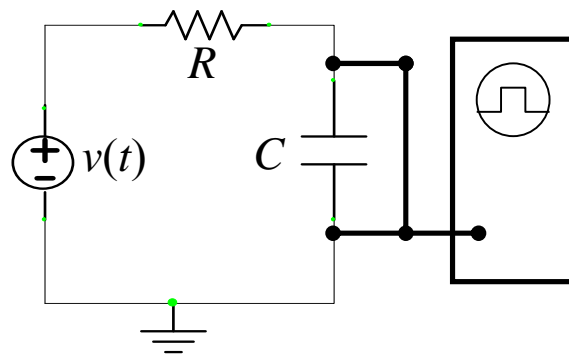

Figure 3. Circuit A measurement for step response model.
1. To use the **step response model** in the capacitor measurement, build the Circuit A shown in **Fig. 3**. How to choose the resistor and capacitor values? Considering the coaxial cable resistance of 50Ω , you may choose a large resistance of $>1k\Omega$. If the resistance and capacitance values are too large, the time constant RC is much larger than the period of the square wave, you cannot observe the charging effect. First you calculate the time constant of RC and then make the period of your square wave several times larger than the RC time constant. Use a 0 to 5V square wave input (function generator and voltage offset setting so that the wave starts at 0 volts) and use the oscilloscope to measure the voltage waveform across the capacitor.
2. You may do experiments in one of the following three ways: (1) using Agilent function generator and Tektronix Oscilloscope, but later you do frequency response manually; (2) using Agilent function generator and your Analog Discovery as the oscilloscope; (3) using Analog Discovery's function generator and oscilloscope. Enter on your **data sheet** the critical time and amplitude points for 4 different values of R (measure the resistance values with the DMM). Use the waveform save feature on the scope to record **ONE** of the capacitor voltage waveforms from the 4 trials that you used to obtain the time and amplitude point measurement. Proper use of the horizontal and vertical cursors can be helpful in making this measurement. The waveform should be presented as a figure in the **results section** and just sketched in the **data sheet**. Compute the mean and 95% confidence limits over the capacitor values determined from each trial and present this in the **results section** also. In the **procedure section**, address/include the following: